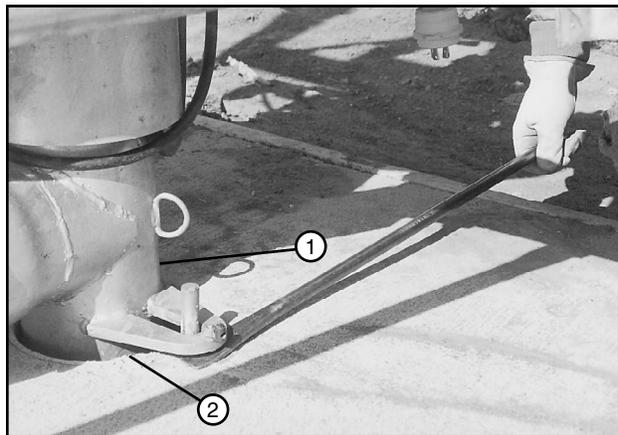

Figure 40-2 1. Riser Pipe
13. Use the winch to raise the riser pipe out of the anchor pipe. It may be necessary to pry the riser from the anchor pipe. See figure 40-2.